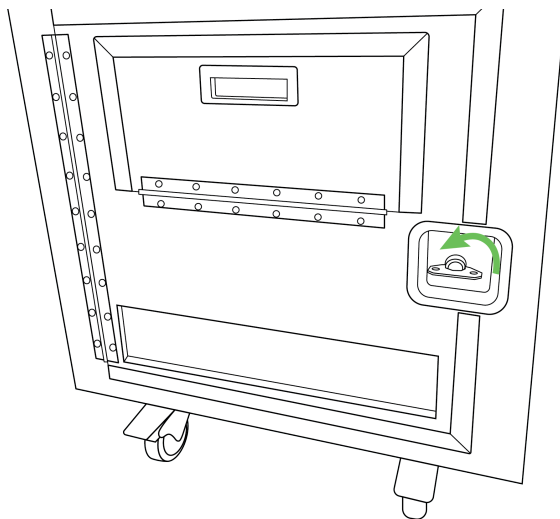

Figure 6-9. The front door and butterfly latch
4. Unlatch the door on the front of the ClearAccess setup box (Figure 6-9):